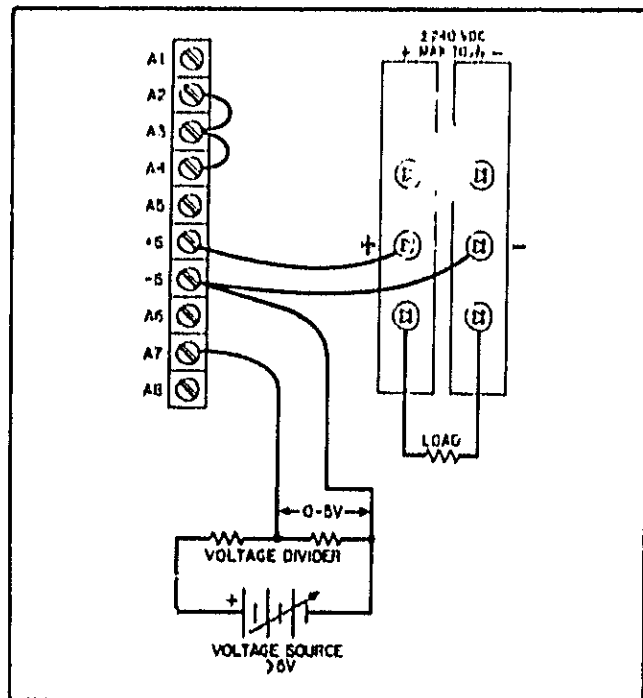

**Figure 3-7. Voltage Programming of Output Voltage**
**3-53 Voltage Programming of Output Voltage.** The rear-panel connections shown in Figure 3-7 allows the output voltage to be varied by using an external voltage source to program the supply. A voltage source variable from 0 to +5 volts produces a proportional output voltage from zero to full scale. The load on the programming source is less than 5  $\mu$ A.